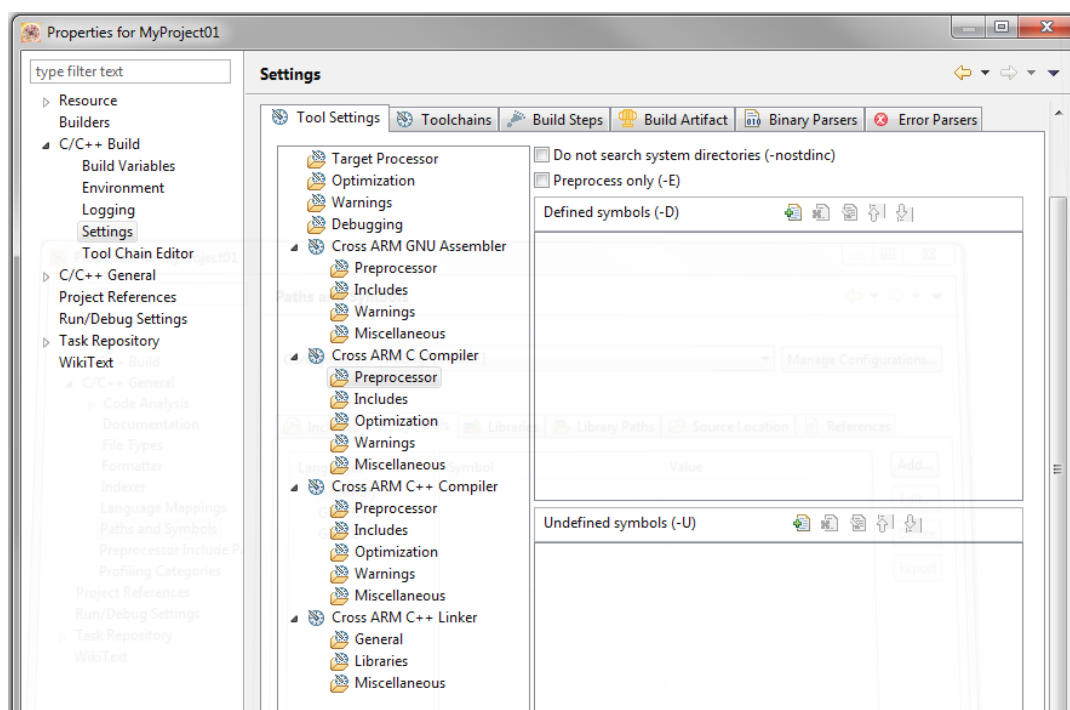

Figure 1-14. Defined symbols
2. Expand the C/C++ Build node and select Settings. See Figure 1-14.
3. In the right-hand part, under the Cross ARM C compiler node, click the Preprocessor node. See Figure 1-14.